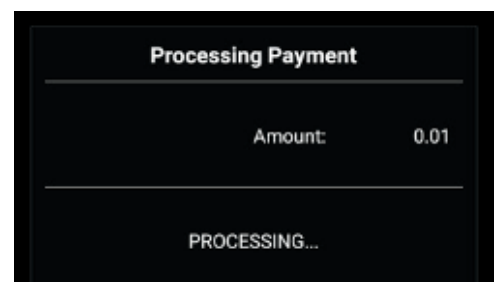

Figure 64
5. Wait for the Processing Payment screen to complete the transaction (Figure 64).